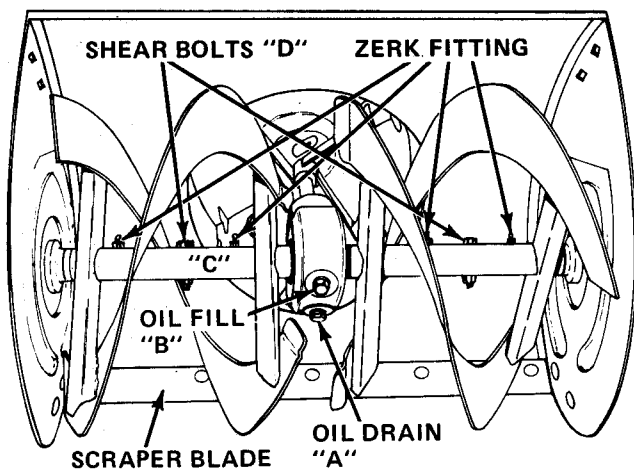

FIGURE 12
To drain and refill, remove fill plug (B), remove drain plug (A) and allow oil to drain. Tip machine back on handlebars. Pour oil into fill hole (B) until it starts to run out of drain hole. See Figure 12. Replace drain and fill plugs.